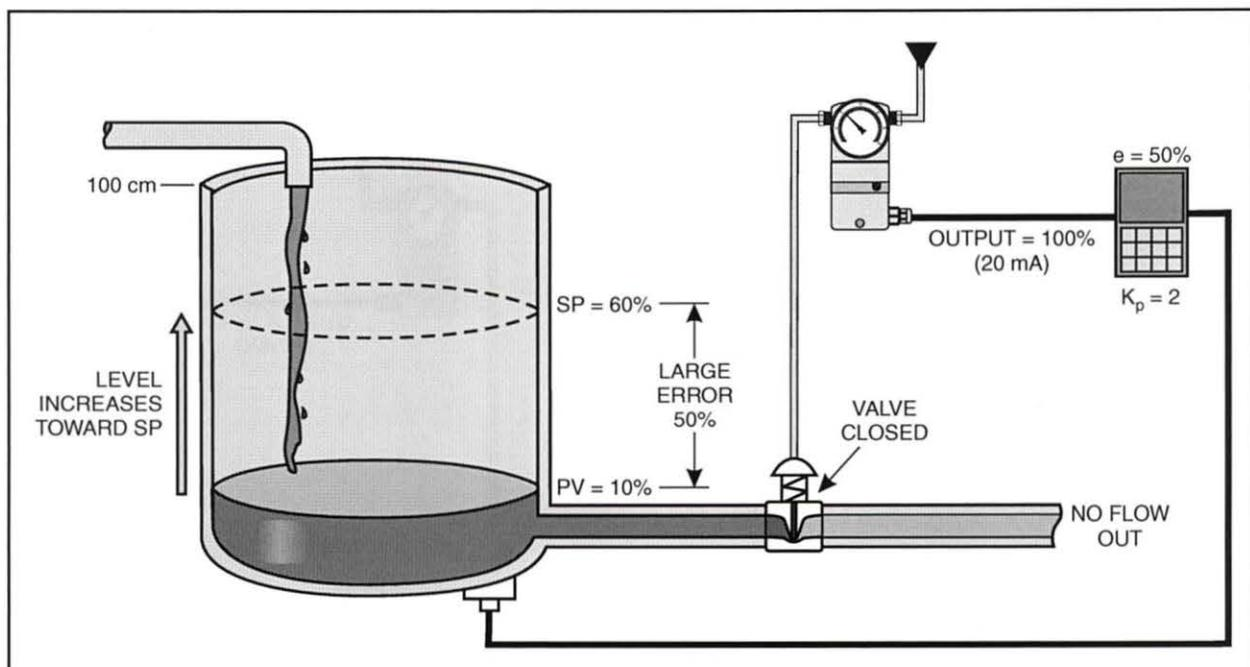

Figure 15. Proportional Control Response to Setpoint Increase
Figure 15 shows that the level (PV) has risen to 10%. At this point, the error is still large (50%) and the controller's output is still at 100%, keeping the valve fully closed. This allows the level to continue to increase at the maximum rate. At this point, the system acts more like an on/off system. This is a typical characteristic of proportional systems.